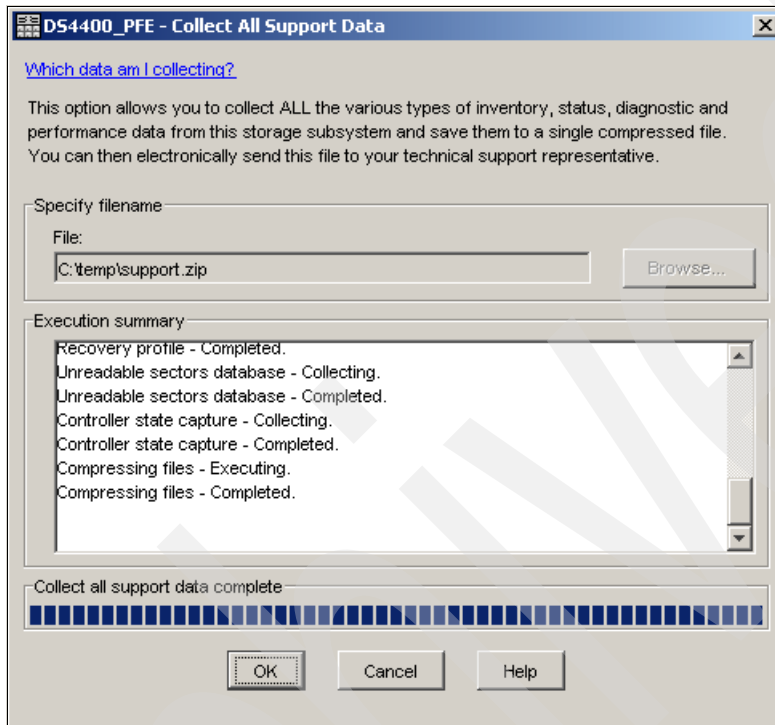

Figure 9-38 Collect All Support Data
2. The Collect All Support Data window (Figure 9-38) opens. Specify the name and location of the zip file that you want to create and then click **Start** to begin the collection.